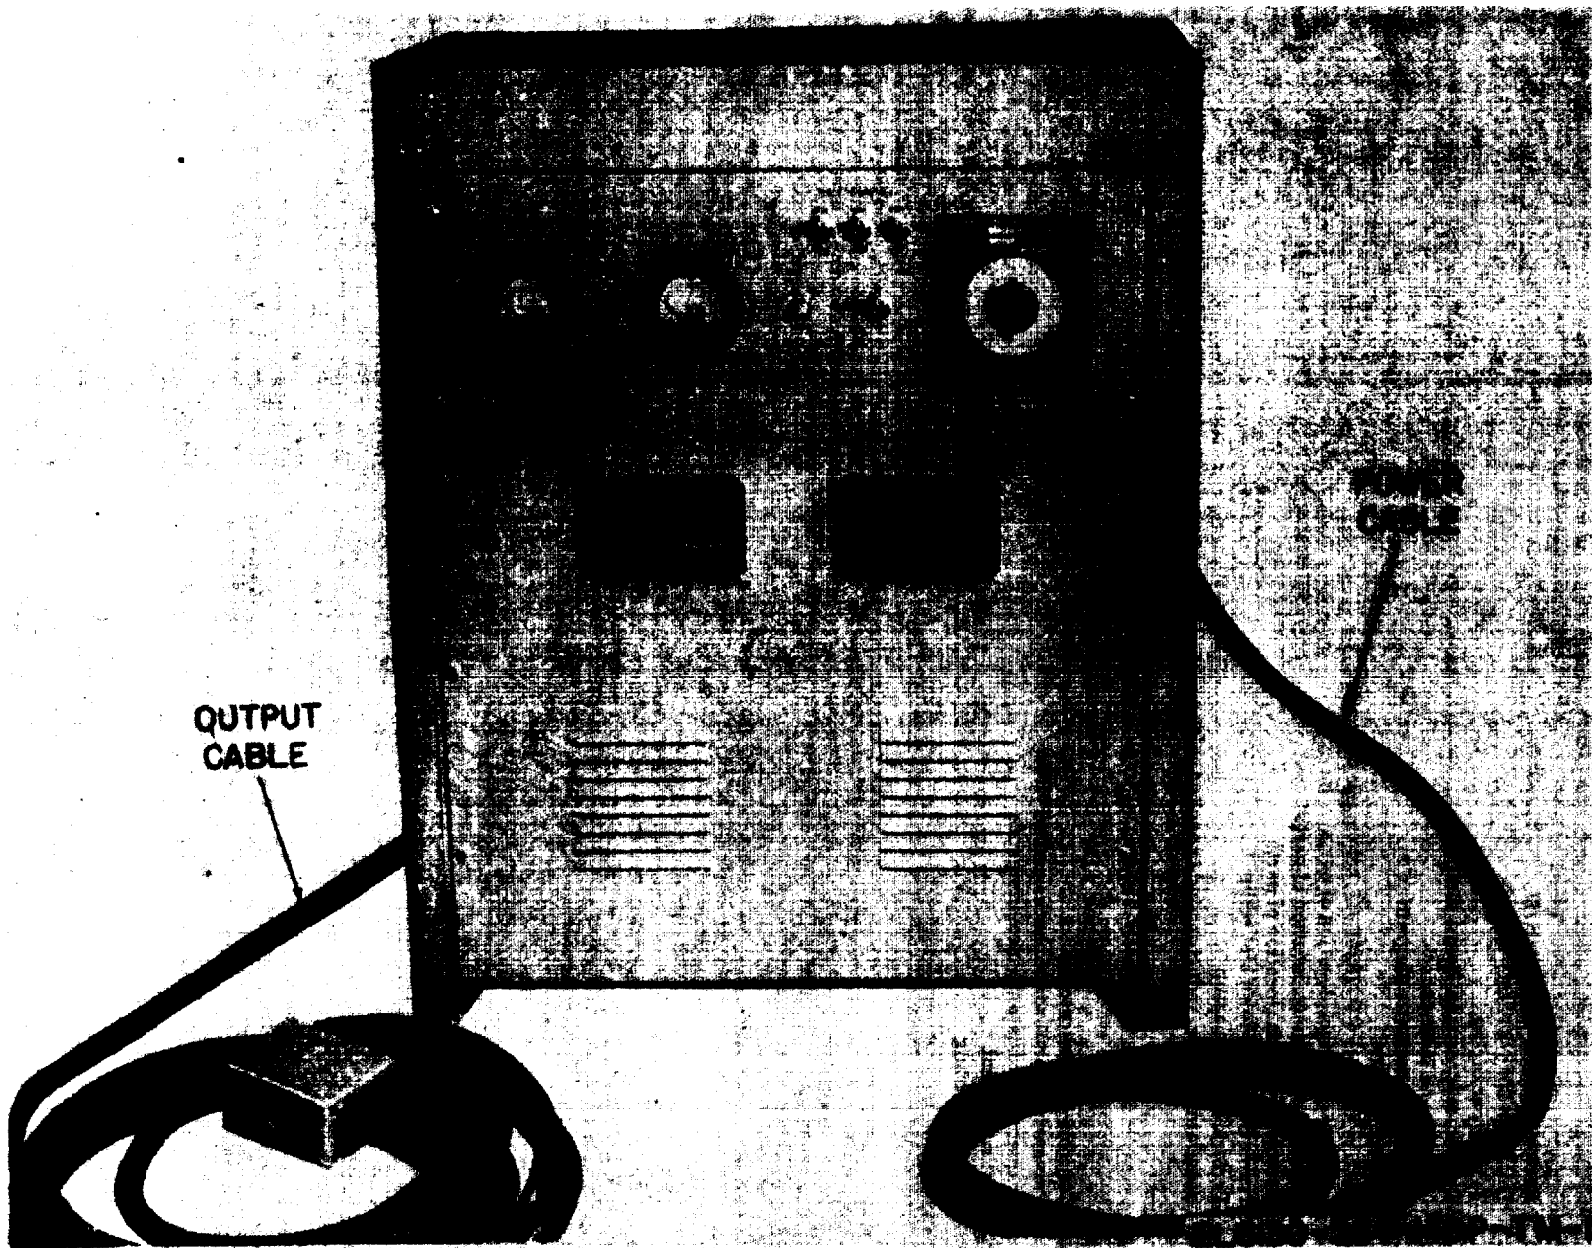

Figure 1-1. Battery Charger PP-2926B/U.
a. This manual describes Battery Charger PP-2926B/U (fig. 1-1) and provides instructions for operation, organizational maintenance, and general support (GS) maintenance. It includes a maintenance allocation chart (app. C). Instructions are provided for the operator and organizational repairman for installation, operation, preventive maintenance, and replacement of parts available at the organizational maintenance. Circuit functioning is included for general support maintenance, together with instructions appropriate to these categories of maintenance for troubleshooting, testing, adjusting, aligning, and repairing the equipment and replacing maintenance parts.